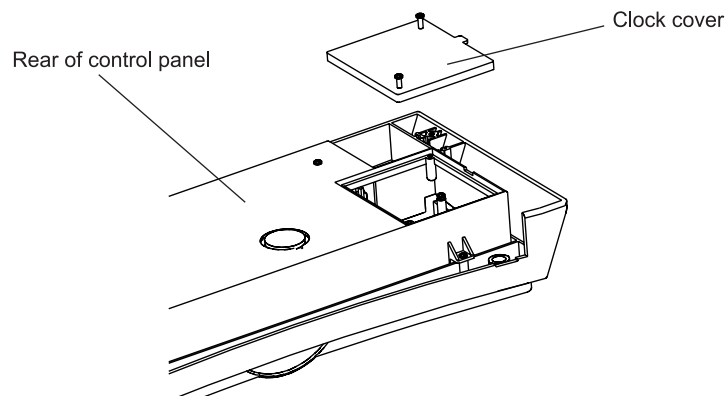

Fig. 21
4.9 FITTING AN INTERNAL CLOCK KIT (Optional) - Fig. 21